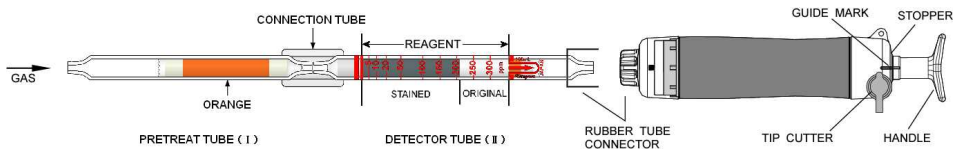

Fig.1
- ① Break both ends of the pretreat tube (I) and detector tube (II), and connect each end of the pretreat tube and detector tube with connecting tube as shown in Fig.1.
- ② Insert the detector tube into the aspirating pump securely as shown in Fig.1. (Arrow mark shall point to the pump.)
- ③ Align the guide marks on the shaft and stopper of the aspirating pump.
- ④ Pull the pump handle at a full stroke until it locks and wait for 3 minutes or until the completion of sampling is confirmed with the flow indicator of the pump. (See descriptions about the flow indicator in the instruction manual of the pump.)
- ⑤ On completion of sampling, read the scale at the maximum point of the stained layer.